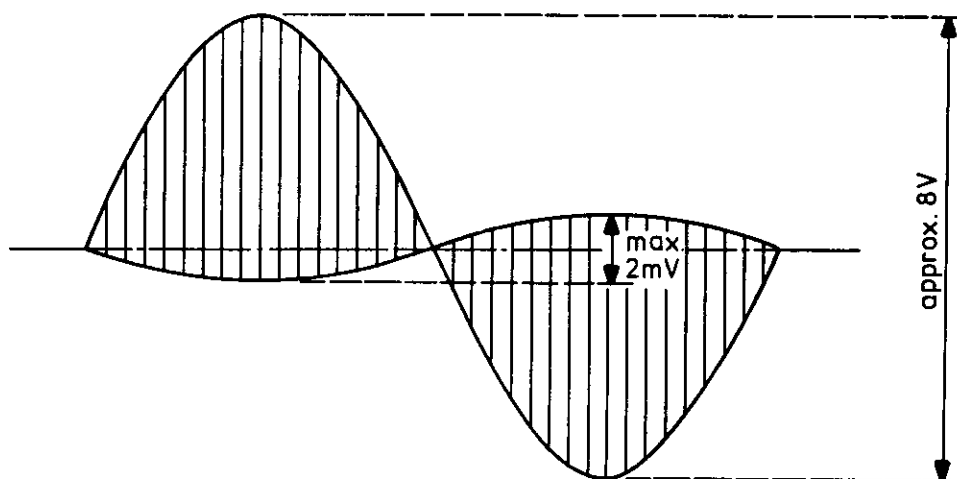

Fig. E2b Separation
- B. The 1 kHz is 180° out of phase with the envelope of the composite signal (see Fig. E2b).